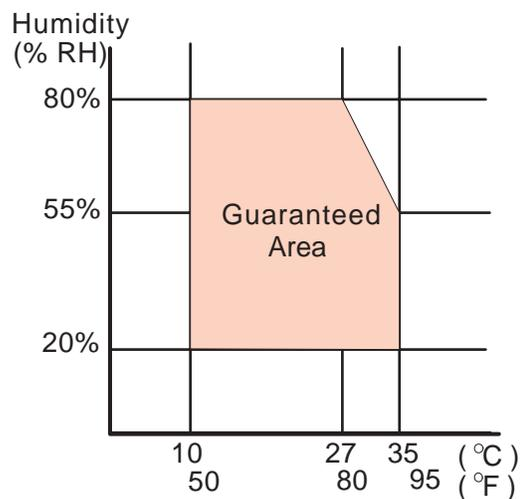

Figure 1-8. Temperature / Humidity of Range
- Operating :10 to 35 °C (Refer to Figure 1-8 for condition)
(without condensation Refer to Figure 1-8 for condition)